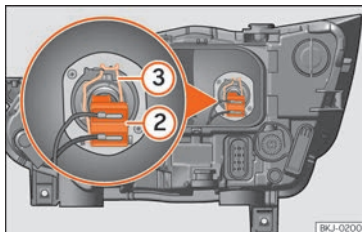

Fig. 105 In the engine compartment: dipped beam lamp.
- Remove the bulb connector » **Fig. 105** ②.
- Unclip the retainer spring » **Fig. 105** ③ pressing inwards to the right.